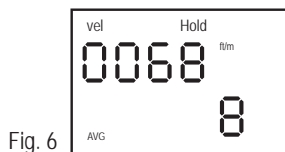

Fig. 6
6. Press NEXT DIGIT/MULTIPOINT button to view the average air velocity and the number of points measured (fig. 6).